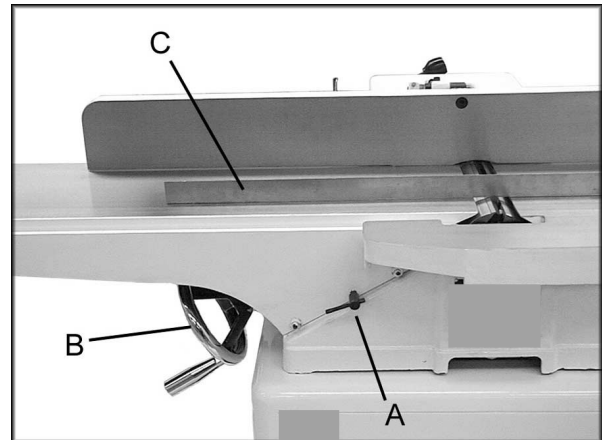

Figure 9
1. Place a strightedge(C Fig. 9) on the out-table so it extends over the cutterhead.
3. Loosen table lock screw (A, Fig. 9) and raise the outfeed table to the height of blade number one by turning handwheel (B, Fig. 9). Counter-clockwise will cause the outfeed table to raise. Clockwise will cause the outfeed table to lower. Set a straight edge (C, Fig. 9) on the outfeed table and across the cutterhead.